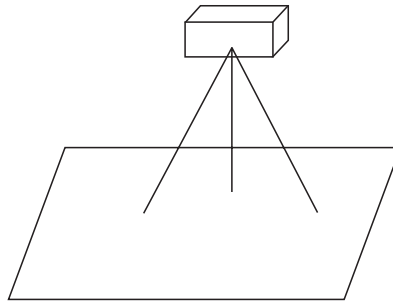

Fig. 2.6
**5. Non-coplanar concurrent force system.** This system is evident where the lines of action of all forces do not lie in the same plane but do pass through a common point. An example of this force system is the forces in the legs of tripod support for camera (Fig. 2.6).